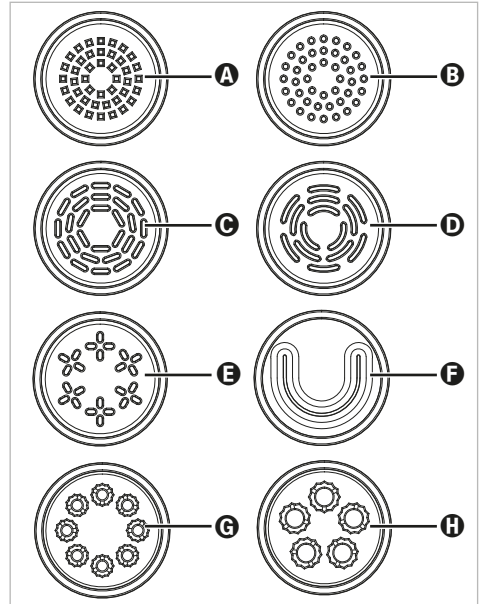

Fig. 2
- ① Display
- ② On/Off button
- ③ Kneading programme key, for selecting the kneading programme
- ④ Kneading button to start the selected kneading programme
- ⑤ Dispense button to start the dispensing programme
8 different shaping discs **⑧** are supplied with the product (**fig. 2**):